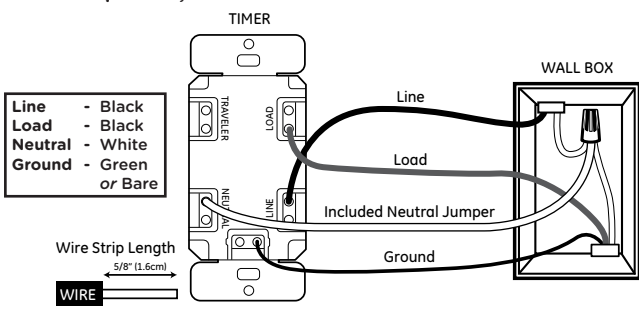

Figure 2 - Connecting the timer wires for single-pole installation
3. Connect the timer to the wall box wires as shown in **Figure 2**.